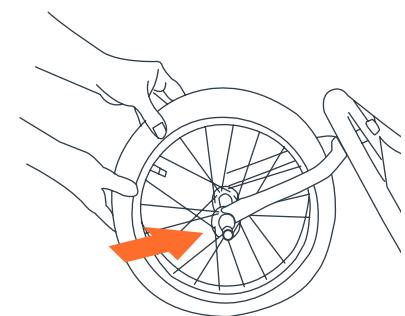

Fig. 2
2) • Slide the front wheel onto the front forks (Fig. 2).